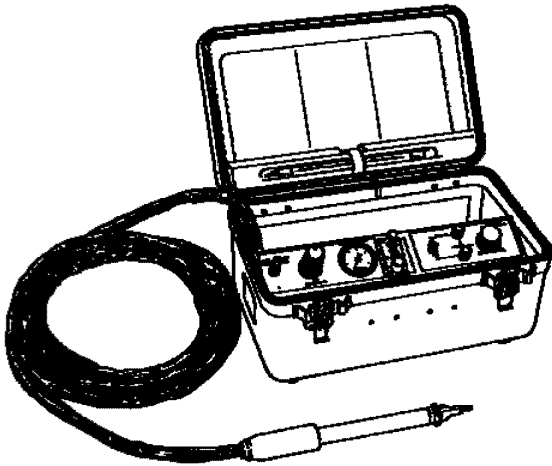

Figure 1. Compressed Air/Nitrogen Heating Tool With Case
7. Compressed air/nitrogen heating tool (Figure 1), is a portable source of heat for use with heat-shrinkable tubing, meltable solder fittings, and is qualified for use on fueled aircraft. With the exception of a source of compressed air/nitrogen, the HT-900/920 is self-contained. Specifications are listed in Table 1. Tool contains several safety features as follows:
8. **Pre-Operation.** Prior to using compressed air/nitrogen heating tool (Figure 1), proceed as follows: